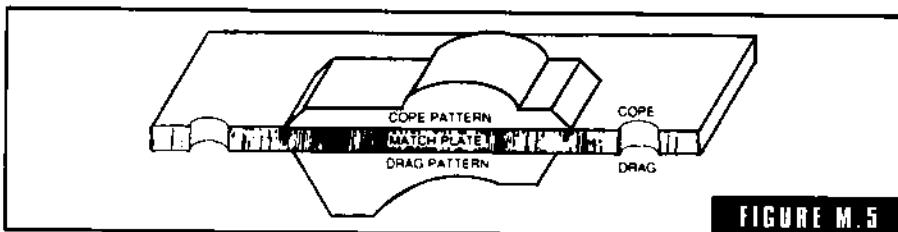

FIGURE M-5
**matchplate** The matchplate is the same as the mounted pattern with the exception that when you have part of the casting in the cope and part in the drag (split pattern), these parts are attached to the board or plate opposite each other and in the correct location so that when the plate is removed and the mold is closed, the cavities in the cope and drag match up correctly (Fig. M-5).